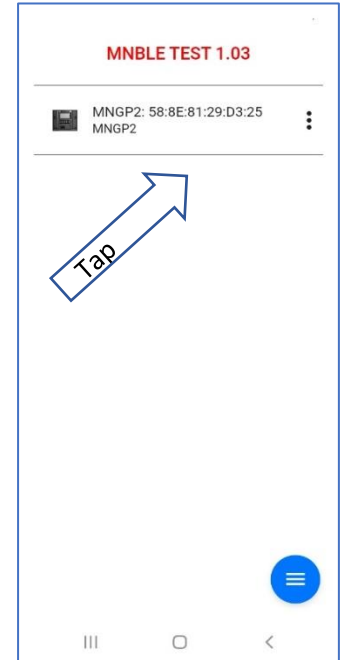

Figure 21
4. FW app will appear as shown in **Figure 21**.